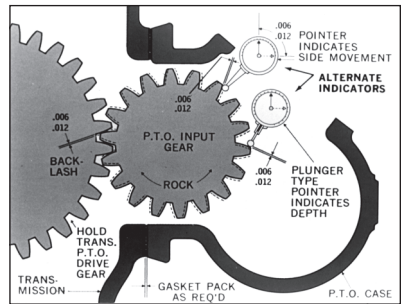

Fig. 11
**NOTE:** See Figure 11 for proper location of dial indicator contact point. (Two common type dial indicators shown).